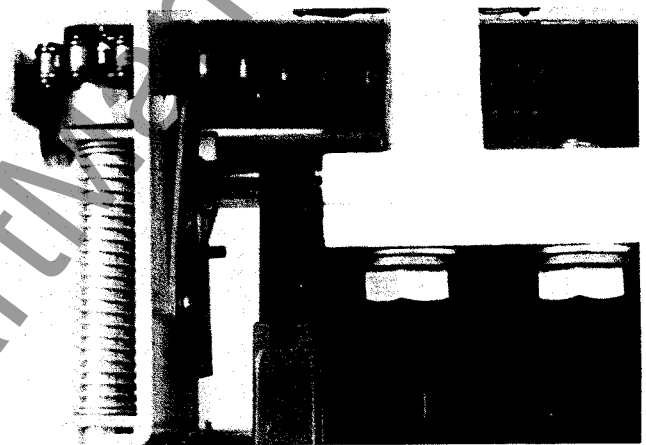

Figure 7. Installation of the detent cam on a draw-out breaker (offset screwdriver required).
14. (For installation in a stationary breaker, skip to step 16.) Slide the detent cam into the carriage side frame from the inside. Install one or two detent cam springs, as supplied, onto the inside of the carriage side frame and secure with two recessed pan-head #8-32, $\frac{3}{8}$ -inch screws and lock washers, as illustrated in Figure 7. Tighten the screws to 20 in-lb. The springs are bent and must be installed with the bend away from the steel frame to apply the minimum force against the detent cam.